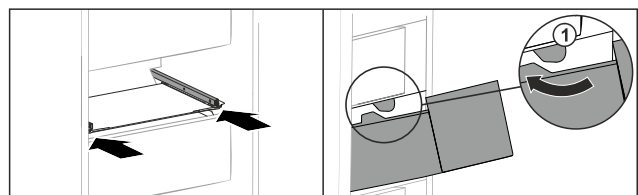

Fig. 198
- Guide drawer around the stoppers Fig. 198 (1).